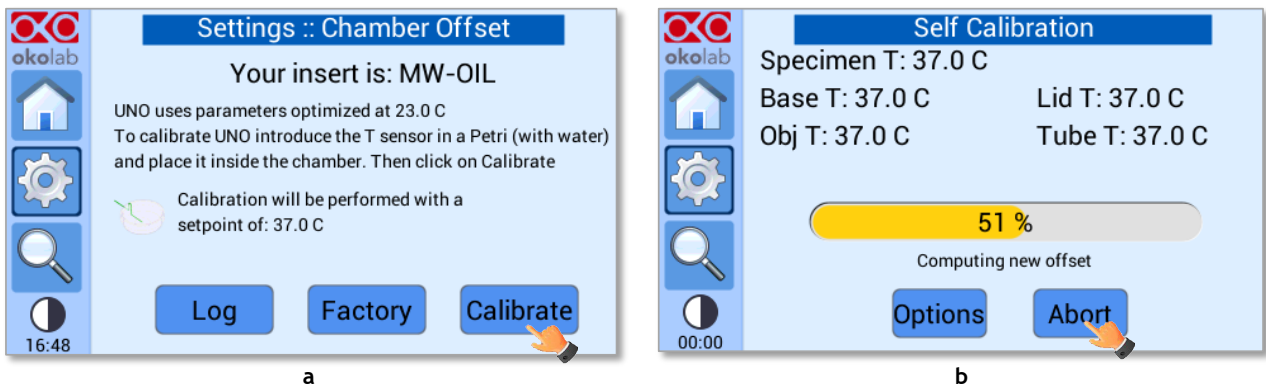
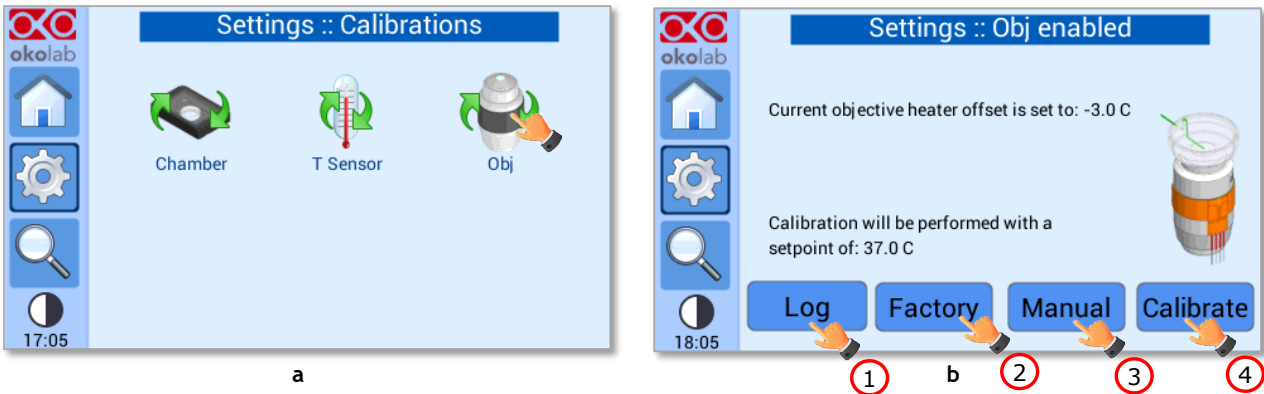
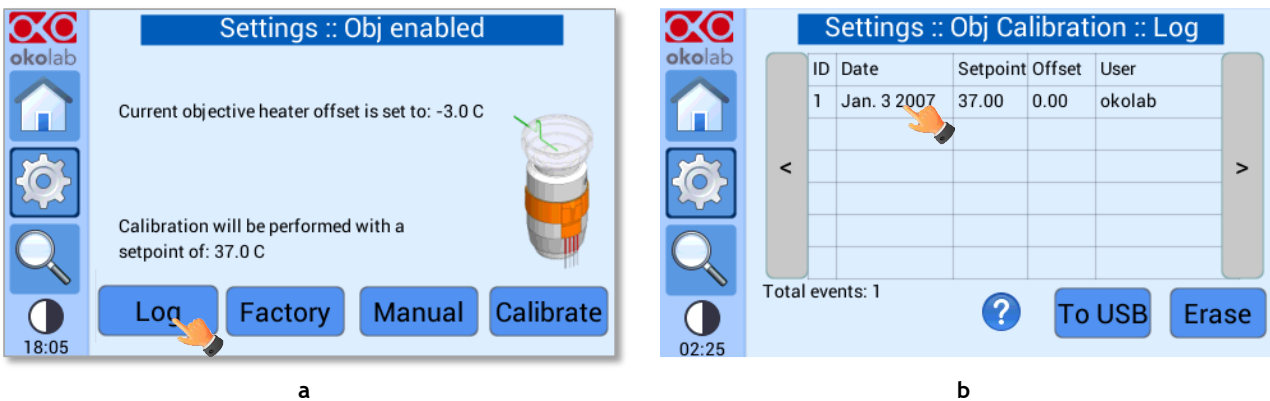
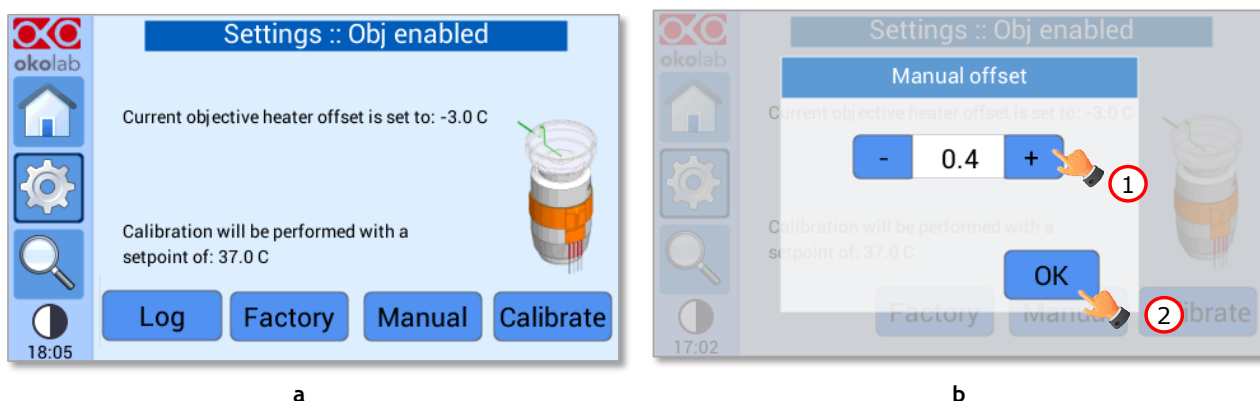

Figure 56. Settings – Calibrations – Chamber – Calibrate (a - b).
Figure 62. Settings – Calibrations - Obj. Heater (a – b).
Figure 63. Settings – Calibrations – Obj. Heater - Log (a – b).
Figure 65. Settings – Calibrations – Obj. Heater - Manual (a -b).
- Press *Calibrate* button (see Figure 56 a) to start the Chamber calibration procedure (see Figure 56 b). Click on *Abort* button to interrupt the procedure (see Figure 56 b).
Press on *Obj* icon , to enter the Objective Heater calibration submenu (see Figure 62).
1. By pressing *Log* button (see pointer 1 in Figure 62 b) you can select parameters obtained by calibrations previously performed (see Figure 63 b).
2. By pressing *Factory* button (see pointer 2 in Figure 62 b) UNO-CONTROLLER will recover the factory offset.
- Be sure that the reading of T Sensor is stable and then press *Manual* button (see pointer 3 in Figure 62 b) and insert the offset value clicking on + or - on the Offset tab (see pointer 1 in Figure 65 b) to adjust the Objective Heater offset value and press on *OK* to save (see pointer 2 in Figure 65 b). The offset is defined as the temperature difference between the set point and the reading of T Sensor.
4. By pressing *Calibrate* button (see pointer 4 in Figure 62 b) UNO-CONTROLLER will perform a calibration routine for your specific environment.
- Press *Calibrate* button (see pointer 5 in Figure 62 b) to start the Obj. Heater calibration procedure (see Figure 56 b). A pop-up message will appear warning you that the Chamber calibration must be performed before the Obj. Heater one. Make sure that the Chamber calibration has been already performed and click *OK* to proceed. Click on *Abort* button to interrupt the Obj. Heater calibration procedure (see Figure 56 b).